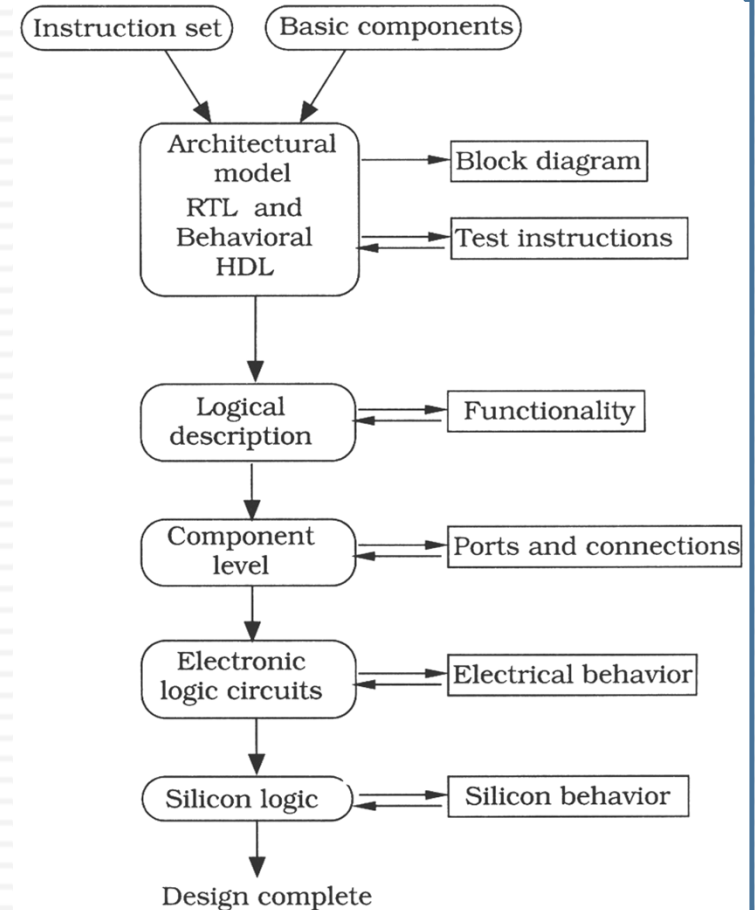

Figure 1.3 A simple design flow for a microprocessor
- An example of a design hierarchy in Figure 1.3